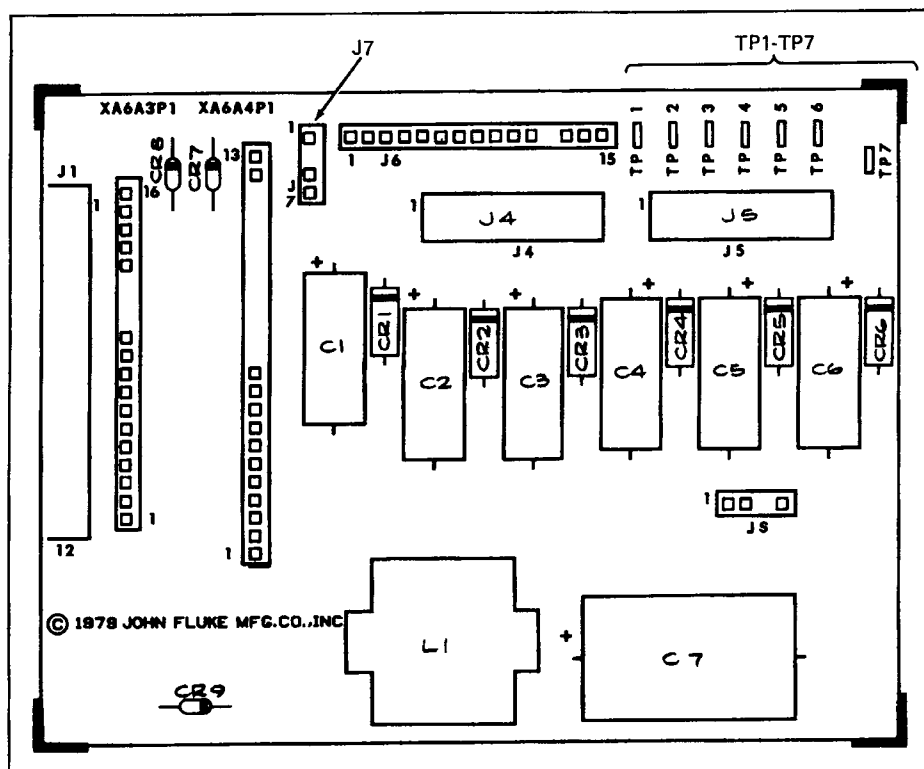

Figure 6-1. A6A2 Series Pass Motherboard PCB
- a. Connect the DVM to the A6A2 Series Pass Motherboard : LO input to TP7 and HI input to J6-15 (Figure 6-1).